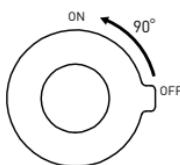

Fig. 3
- 3.1 The temperature safety button [10] in the temperature adjustment knob to the right [11] prevents accidental adjustment by children and protects the user from burns (Fig. 3). If you need water temperature above 38°C, move the safety button to the outside (left) and while holding it, rotate upwards (according to the plus arrow). Release the button to automatically return to the maximum setting of 38°C when the knob is turned in the opposite direction.
- 3.3 Outflow adjustment knob [15] - rotate the knob downwards to increase water flow from the tap (Fig. 3), as indicated on the knob. Rotate the knob upwards to shut off water flow.